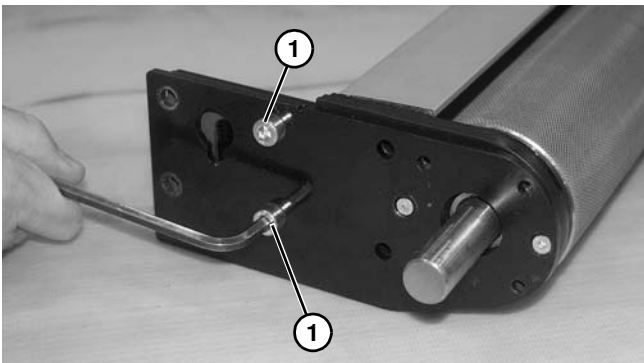

Figure 120
8. With tail assembly on an open work surface, remove the two screws (Figure 120, item 1) from cover plate.